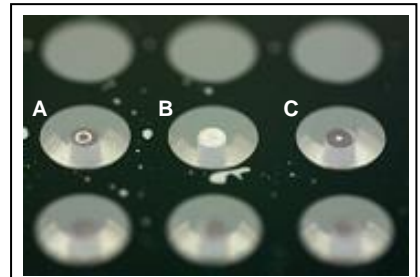

Figure 2. Stoppers that are:
2. Visually inspect the underside of the populated 96-well plate to ensure that the Oris™ Cell Seeding Stoppers are firmly sealed against the bottom of the plate. To inspect the stoppers, turn the plate over and examine the stoppers for sealing (see Figure 2). If incomplete sealing is observed, return the plate to the upright position and use a sterile instrument to gently push the stopper back into the well until sealing is observed.